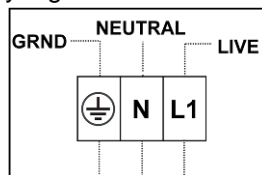

Figure 1
- Connect source wires (and through wires if applicable) to terminal block (see Figure 1) as described: